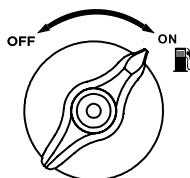

Figure 7: Turn Fuel Switch to ON Position
5. Turn the Fuel Control Switch to the **ON** position (see Figure 7).
4. Confirm that the Fuel Control Switch is in the **ON** position (see Figure 7).